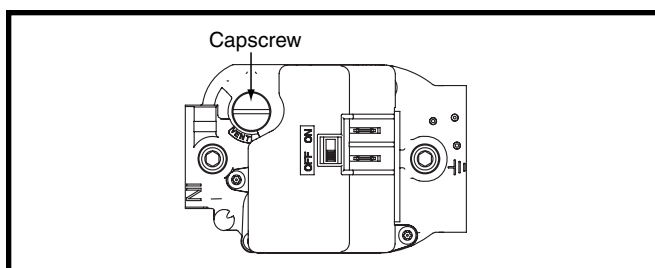

Figure 28. Regulator Capscrew
- b.) Remove the regulator capscrew (Figure 28) from the INLET side of the regulator.